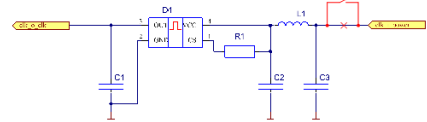

Figure DIM.05.01.01 – Symptom realization
- Solder the switch between the raised pin of the element AA1.L1 and vacated contact pad (Figure DIM.05.01.01).